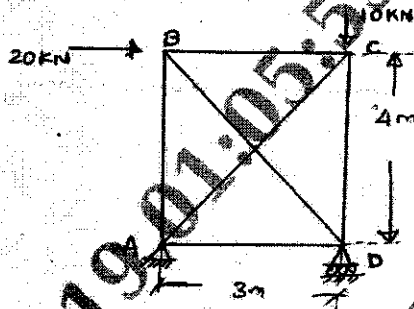

Fig.Q8
- 8 Analyse the pin-jointed frame shown in Fig.Q8 by flexibility method. The cross-sectional areas A and E for all members is the same. (16 Marks)